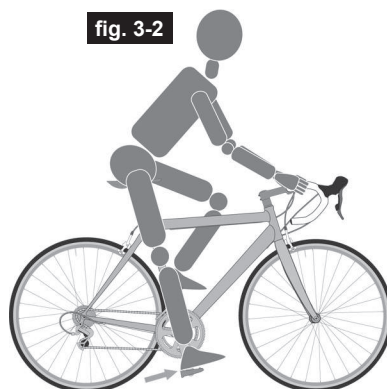

fig. 3-2
1. Up and down adjustment. To check for correct saddle height (fig. 3-2):